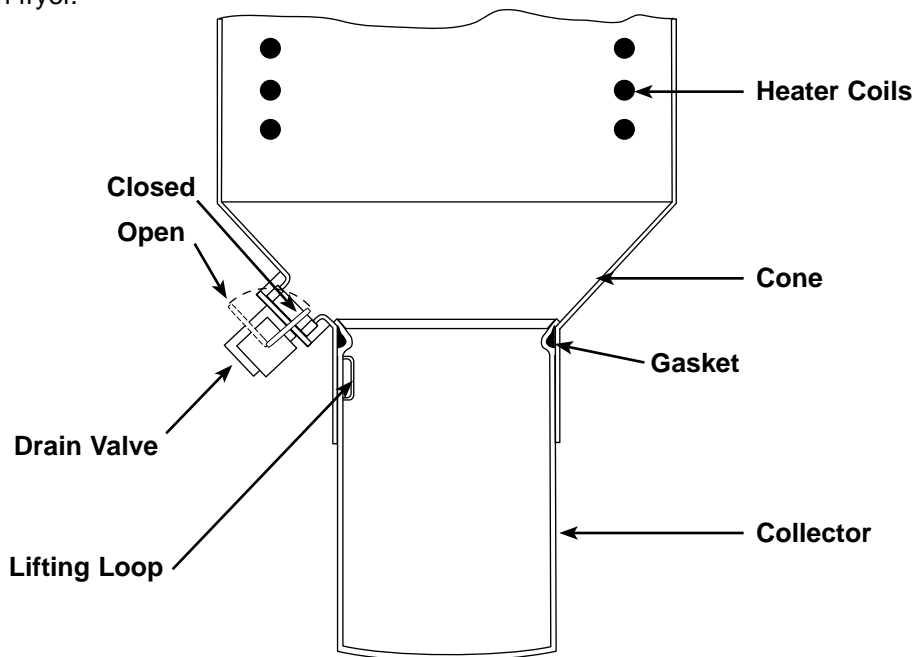

FIGURE 3 - Some features have been omitted to show greater detail.
3. **Check Collector and Drain Valve** - Make sure collector with gasket is seated and drain valve is closed (handle back – see Figure 3).